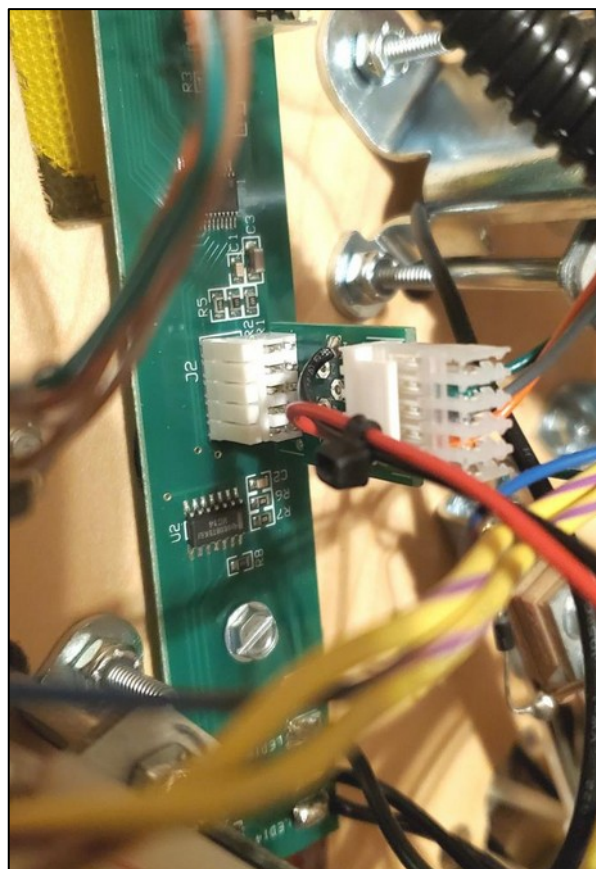

Figure 2
Step 3: Install the supplied LE model PCB power tap and six-pin wire tap motor direction sense combination wiring harness as shown in **Figures 2 and 3**. The six-pin wire tap is connected between the factory disc direction relay assembly connector located at the lower left under the playfield. The LE model location is shown in **Figure 2**. The LE model PCB power tap is attached at the 520-5315-02 LED lamp board (closest to the pop bumpers) and is sandwiched between the factory J2 connector and original wiring harness. Pro model owners need to use the optional “Pro Power Harness” and see note below. Attach the single five-pin keyed connector from the other end of the attached power tap and six-pin wire tap motor direction sense combination wiring harness to the J3 “POWER IN” connector of the Controller PCB.